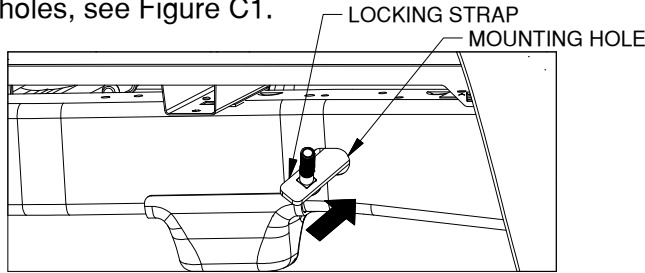

Figure C1: View looking into driver side wheel well.
1. **Install carriage bolts.** Each side plate is attached to the frame with the help of a locking strap. To begin, locate mounting hole in the frame, attach the carriage bolts to the locking straps by passing the bolts through the straps. Insert the locking straps through the holes in the frame until they are completely inside the frame and only the carriage bolt is passing through the holes, see Figure C1.